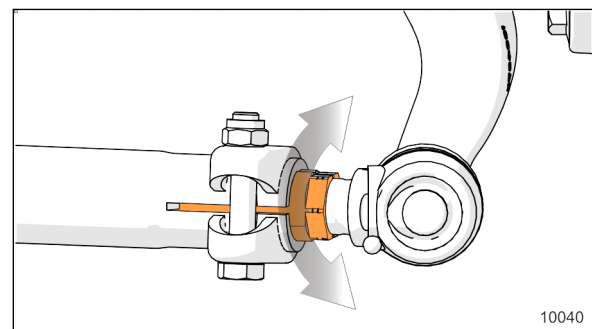

FIGURE 81: FINE ADJUSTER SLEEVE ON TIE ROD
- b. Turn the adjuster sleeve (Figure 81) until the specified toe-in measurement is obtained.